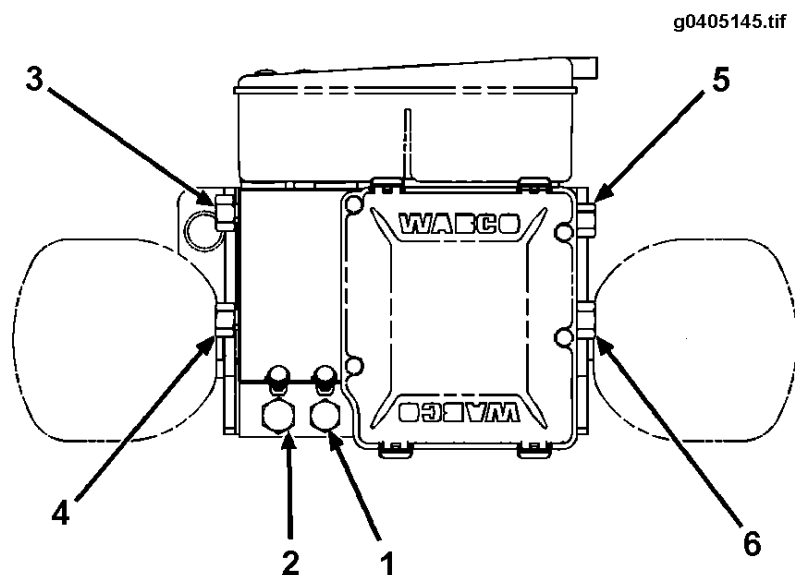

Figure 45 HCU Brake Line Ports
13. Disconnect the brake line fittings from HCU, and protect the tubes and the ports on the HCU from contamination by installing matching plugs. Refer to FIGURE 45.
7. Connect the brake lines to the HCU as indicated in FIGURE 45 (See Figure 45, page 93). Torque these fittings to 12.2 to 19 Nm (9 to 14 Lbf-ft).